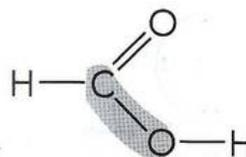

Figure 3.19: Methanoic acid.
- 7 Figure 3.19 shows the structure of a molecule of methanoic acid.